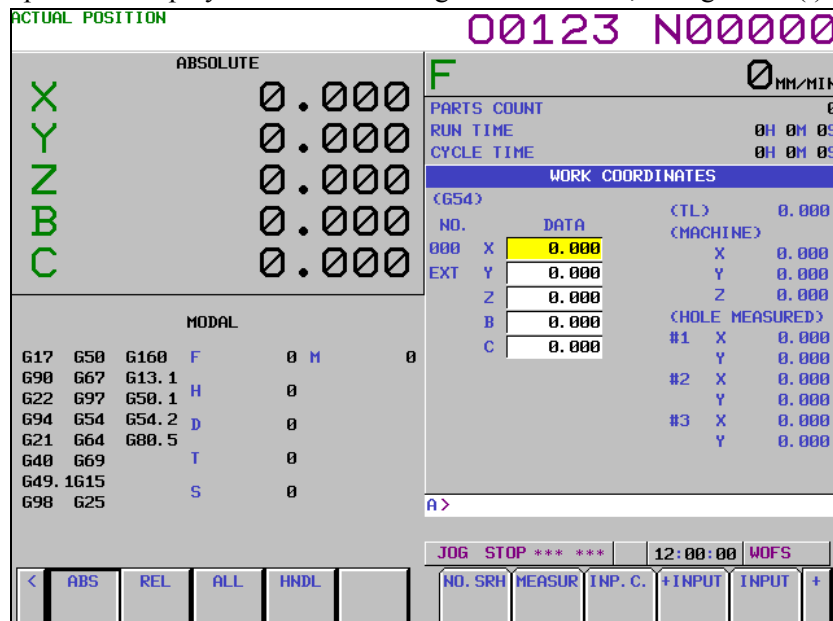

Fig. 1.1.3 (i) Workpiece origin offset setting screen (10.4-inch display unit)
- 6 As soon as the sensor detects contact with the circumference, input a skip signal to the machine, thus stopping the axial movement of manual handle feed or jog feed. Simultaneously, the position at which feed stopped is stored as the first measurement point. The machine coordinates of the stored measurement point are displayed at the bottom right of the screen, as Fig. 1.1.3 (i):